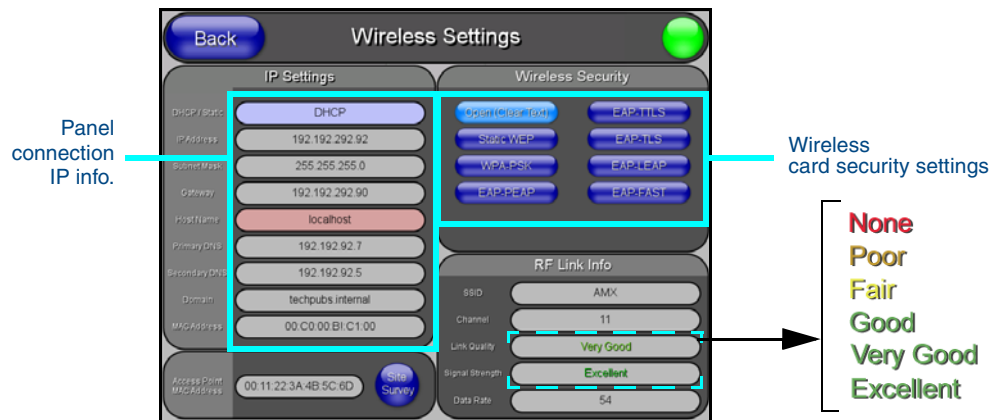

FIG. 28 Wireless Settings page (showing a sample unsecured configuration)
- The descriptions are: **None, Poor, Fair, Good, Very Good, and Excellent** (FIG. 28).